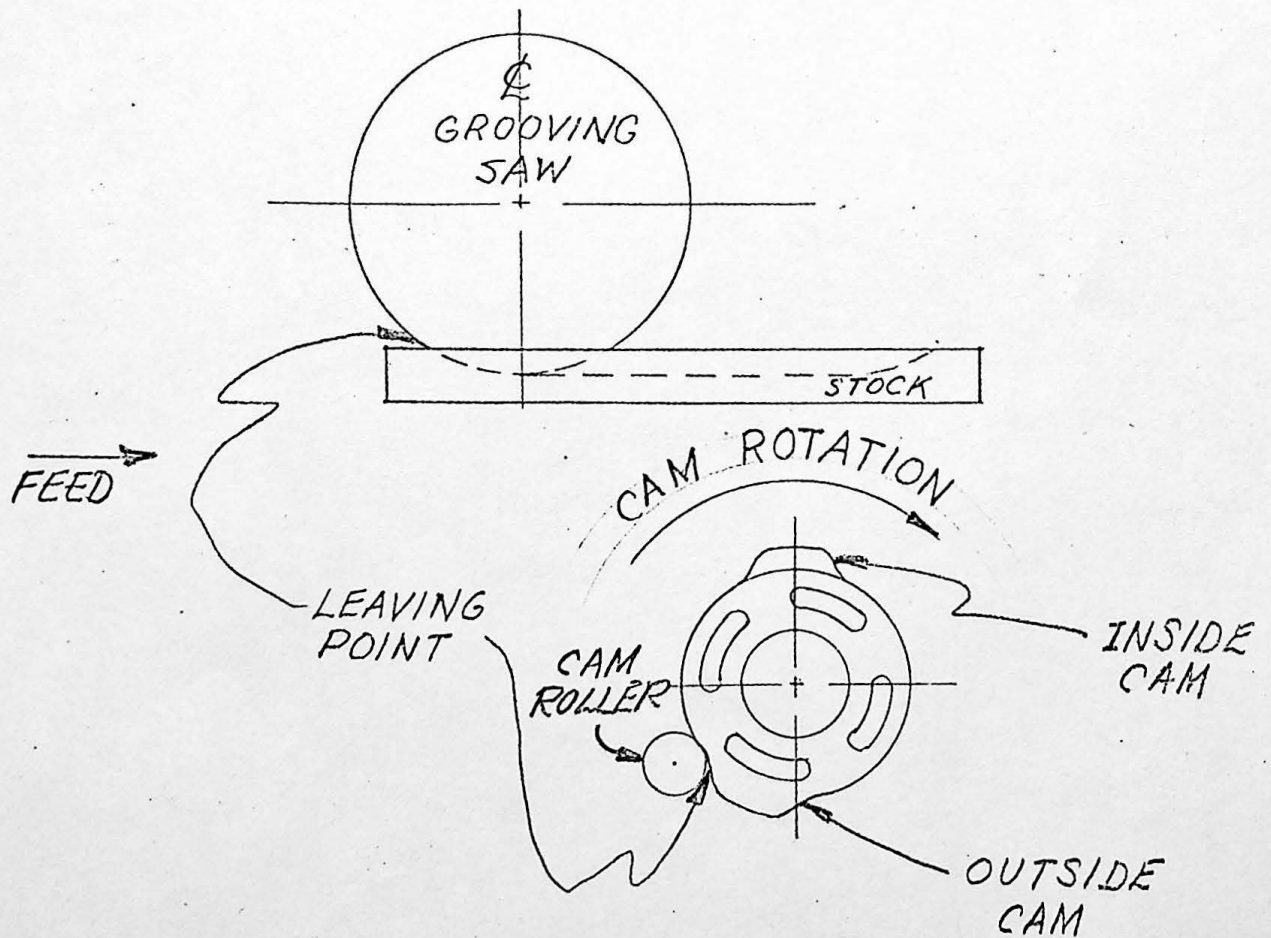

Fig. 2
5. Continue jogging the stock through the machine until the cutters reach the leaving point and stop the feed. It is then a matter of setting the outside cam until the cam roller is at the leaving point. SEE FIGURE 2